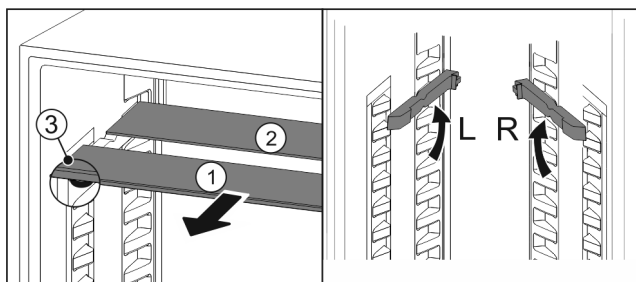

Fig. 173
- Pull the glass panels out Fig. 173 (1) from the front, one at a time.
- The glass panel Fig. 173 (1) and trim strip are at the front.
- The stops Fig. 173 (3) point down.